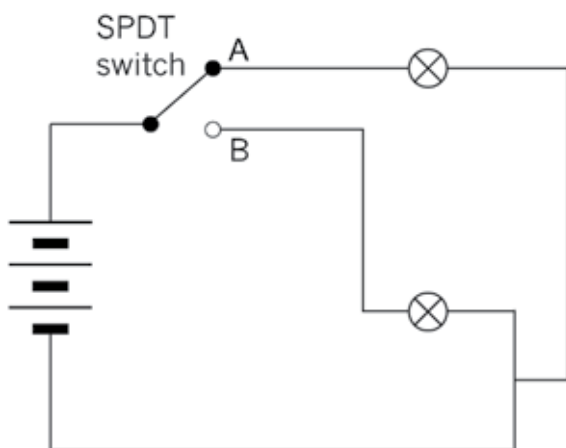

Figure 6: A circuit with a battery, two lamps and an SPDT switch controlling two outputs
6. Look at Figure 6 again. An SPDT switch controls two possible outputs. They cannot both be ON, nor can they both be OFF. Is this an example of OR logic or AND logic? Explain your answer.